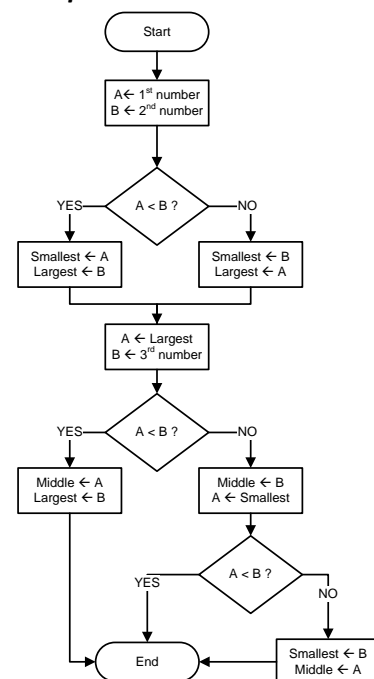

Figure 1.2. Example pseudo-code (left) and flowchart (right) to solve a sorting problem
- Write a pseudo-code or sketch a flowchart to indicate the main steps and decision points i.e. algorithm that you will code into your firmware. Firmware is the code you will store in the MCU program memory that will control your system operation. Figure 1.2 depicts an example piece of pseudo-code and flowchart that solves the problem of sorting three input numbers. **You do not have to design a solution for this; it is just provided as an example.**